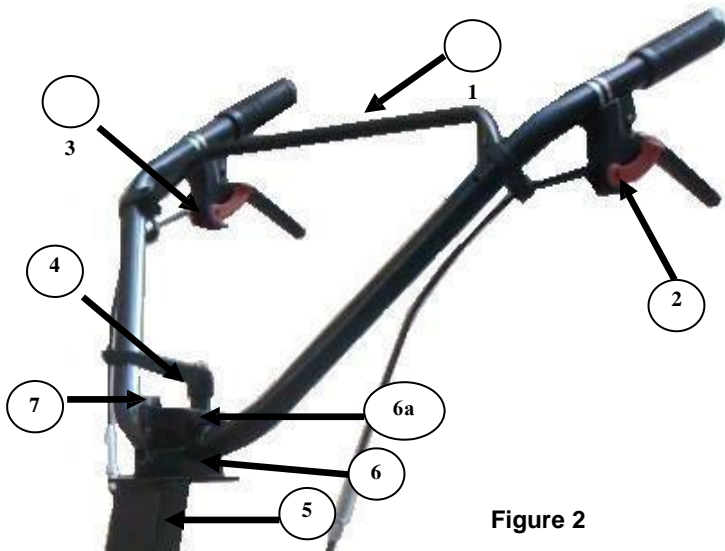

Figure 2
- Cross-tube (Figure 2, Item 1)
- Clutch switch (Figure 2, Item 2)
- Switching the reverse gear for the model T 395 (Figure 2, Item 3)
- Handlebar fastener (Figure 2, Item 4)
- Handlebar fastening bracket (Figure 2, Item 5)
- Handlebar fastening clamps (Figure 2, Item 6)
Note: handlebar fastening clamp consists of two parts: upper (Figure 2, Item 6a) and lower (Figure 2, Item 6).
4. Fit the hole found in the lower part of the handlebar fastening clamp together with the hole of the handlebar bracket (Figure 2, Item 6).
5. Take out the handlebar fastener from the fastening set (Figure 2, Item 4), a bolt (Figure 2, Item 7), fixing screw and a
6. Install the handlebar in the hole of the lower part of the handlebar fastening clamp (round hole without teeth), and from the top place the upper part of the handlebar fastening clamp on it (Figure 2, Item 6a), fitting the bracket holes in the lower and upper part of the handlebar fastening clamp.
7. Place the bolt in the holes fitted together (Figure 2, Item 7), with the washer put on it previously by means of a key (it should be purchased separately) and tighten it.
8. Place the bolt having a rectangular part under the head in the other hole of the handlebar fastening clamp, put the flat washer on it and fix it with the handlebar fastener (Figure 2, Item 4).